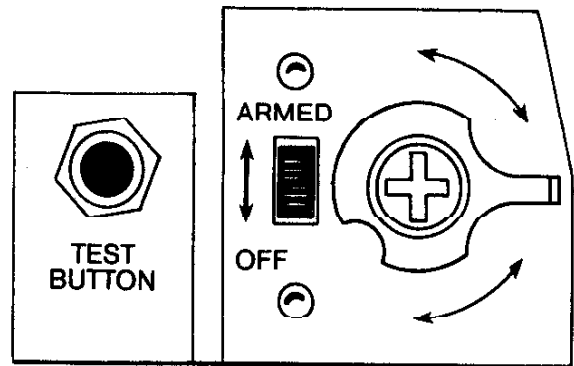

Figure 2
6. Move slide switch to "OFF" (see Figure 2).